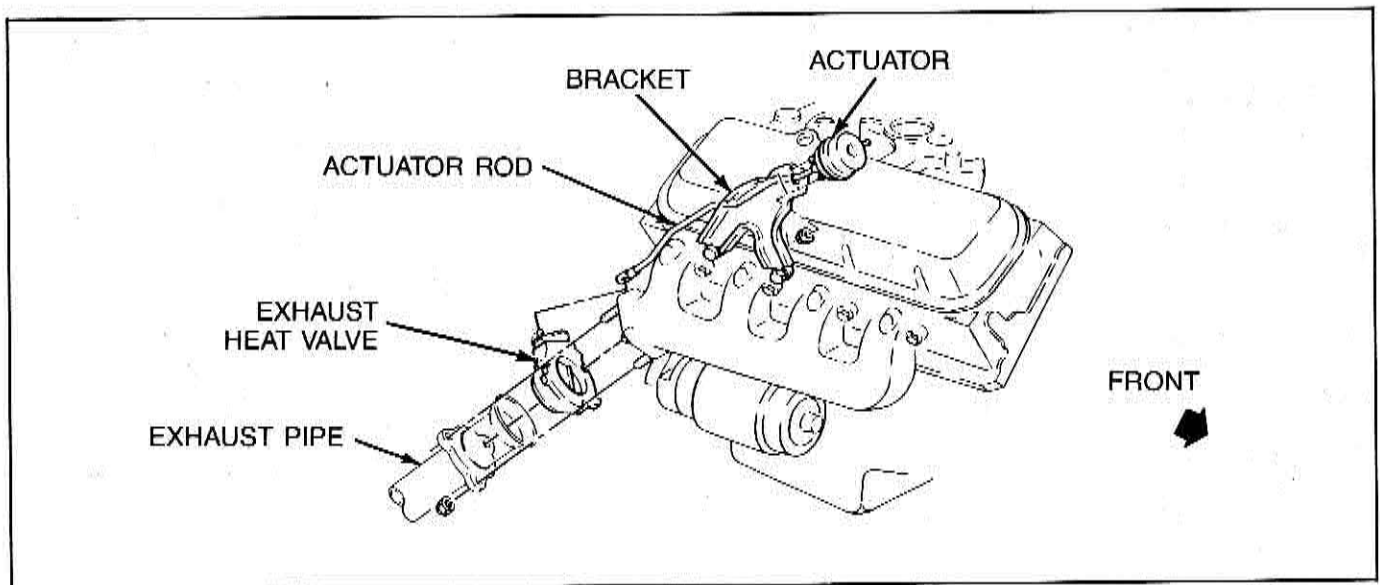

Figure 7-59 — Exhaust Heat Valve — EFE System
- Visually inspect the exhaust heat valve (Figure 7-59) for damage or binding linkage.